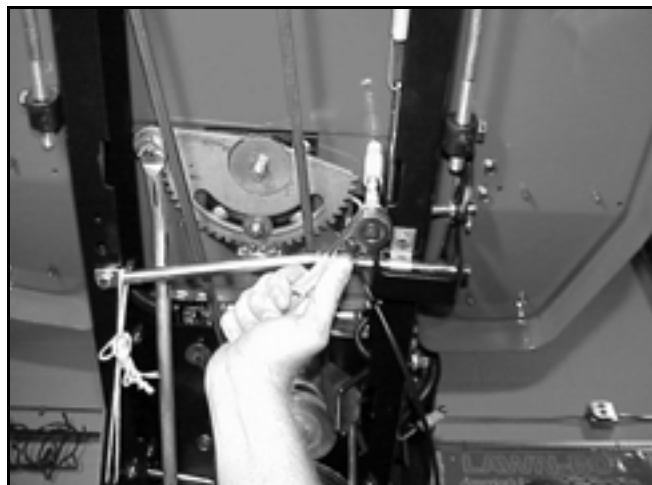

Figure 163 MVC-0036
5. Remove the two bolts that are located on the underside of the tractor that hold the rear portion of the steering tower (Figure 163).